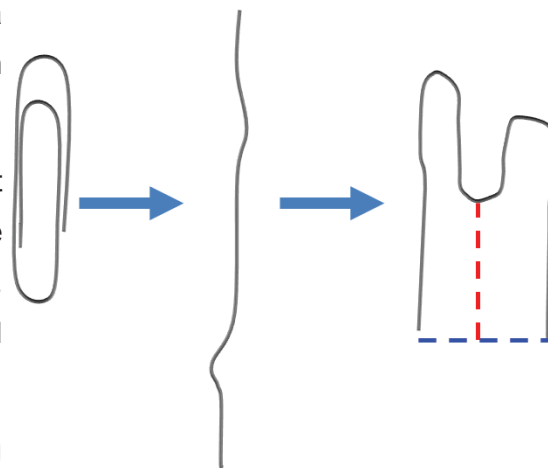

Figure 11: Uncoil a paper clip into a linear piece. Then, bend the paper clip into an “M” shape.
- Remold a paper clip into an “M” shaped support so that it has a round slot to support a tail of the coil. Refer to Figure 11 for an infographic.
Note: The legs of the support don't have to be an exact measurement, but try to have both legs end at the same position as indicated by the blue, dashed line in Figure 11.
You will need a minimum clearance of 3 cm under the tail rest as indicated by the red, dashed line in Figure 11.